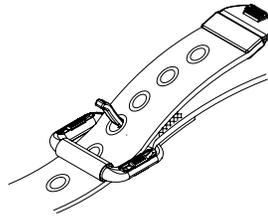

Figure 7 - Adjusters
3.4 HARNESS ADJUSTMENTS: harnesses are equipped with a pair of Torso Adjusters for adjusting the Shoulder Straps. Figure 7 illustrates operation of the Torso Adjusters: